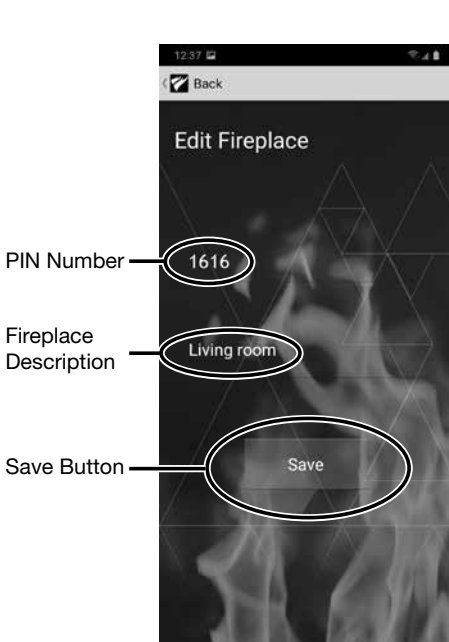

Figure 29: Edit Screen.
5. Enter the PIN number and a user defined description of the fireplace (Figure 29).